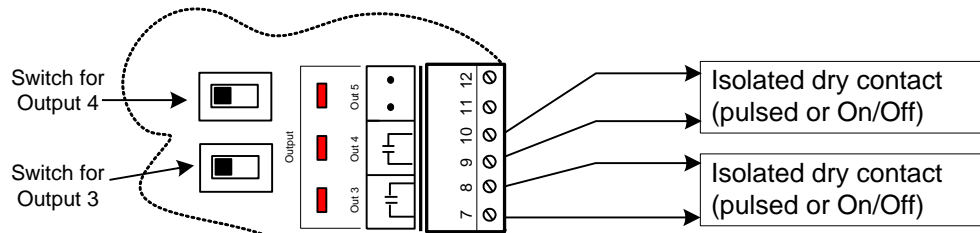

Figure 11: Outputs 3 and 4 passive
2) Switch position to obtain a **passive output** (see Figure 11):